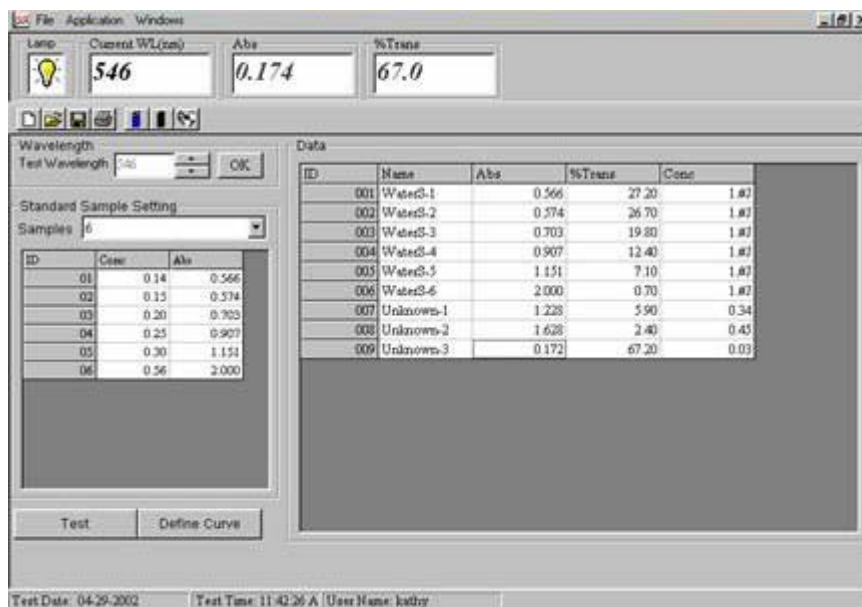
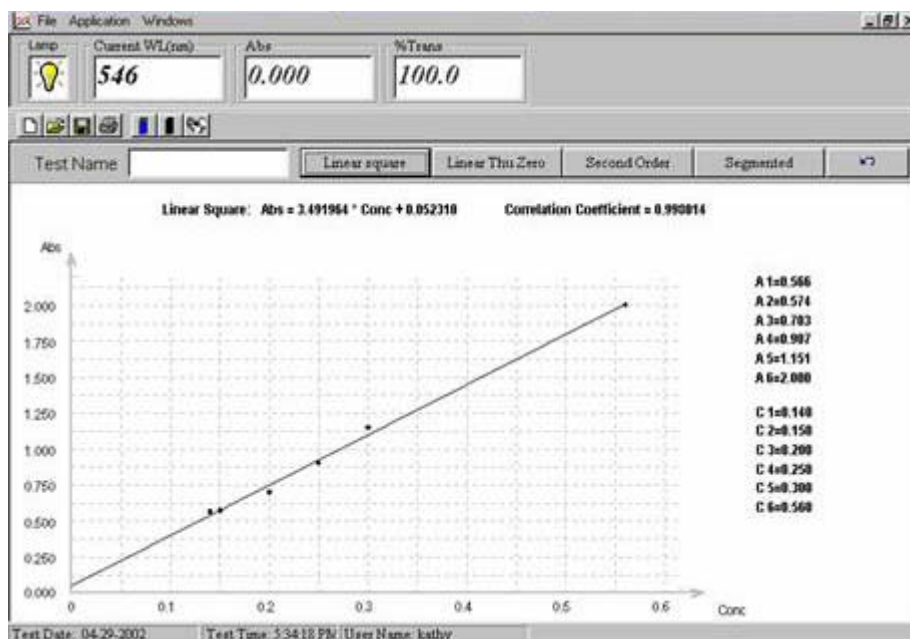
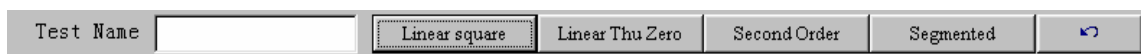

Figure-31 Sample Test Results of **Standard Curve**
Figure-32 **Standard Curve** Graph Display
Figure-33 Buttons for **Standard Curve** Test
Step 5: Place the standards in the Sample Compartment in order of lowest concentration to highest concentration. Type the concentration of the standards (e.g. 0.14 here) into the Text Field starting below **Conc** label and at the right of **ID 01** as Figure-31 shown. Press **Enter** key on your computer keyboard or click with the mouse to move to the next cell. Repeat the same operation until all concentrations of the standards have been entered.
Step 6: Measure the **Absorbance** of each standard. For each measurement, insert the standard into Sample Compartment and click **Test** button. The **Absorbance** and **Transmittance** values will be recorded into the **Data Table**; then, double click in the appropriate **Absorbance** cell (**Abs**) (in the left table) next to the standard **Conc** to get the **Absorbance** for curve drawing. Continue until all of the standards have been measured (Figure-31). Alternatively, if you do not want the **Absorbance** of the standards to be recorded into the **Data Table**, you may select the appropriate **Absorbance** cell (**Abs**) (in the left table) next to the standard **Conc** and double click the mouse to get the **Absorbance** results.
Step 7: Press the **Define Curve** Button (Figure-31) to graph the **Standard Curve** (e.g. WaterS-1 to WaterS-6 are the standards) (Figure-32) and you may **save** it for future use.
Step 1: Select the desired **Standard Curve** by clicking on one of the four buttons (Figure-33). Shown in Figure-32 is **Linear Squares** (Least Squares Method). Items in the equation next to the **Linear Squares** title on the graph are Abs, the slope, and y-intercept as well as **Correlation Coefficient**
Step 3: When ready to measure samples of unknown concentration, press  (arrow return button) to return to the main **Standard Curve** screen (Figure-31).
Step 4: To measure the concentration of unknowns, place the samples in the Sample Compartment and click on **Test** button (Figure-31), located at the bottom-left portion of the screen.